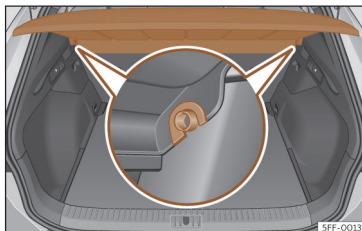

Fig. 174 In the boot: removing and installing the shelf.
- Remove the rear shelf from the side supports >>> **Fig. 174** by pulling it upwards and then take it out.
- Insert the cover horizontally so that the "recess" fits onto the axis of the supports >>> **Fig. 174** and press down until it engages.